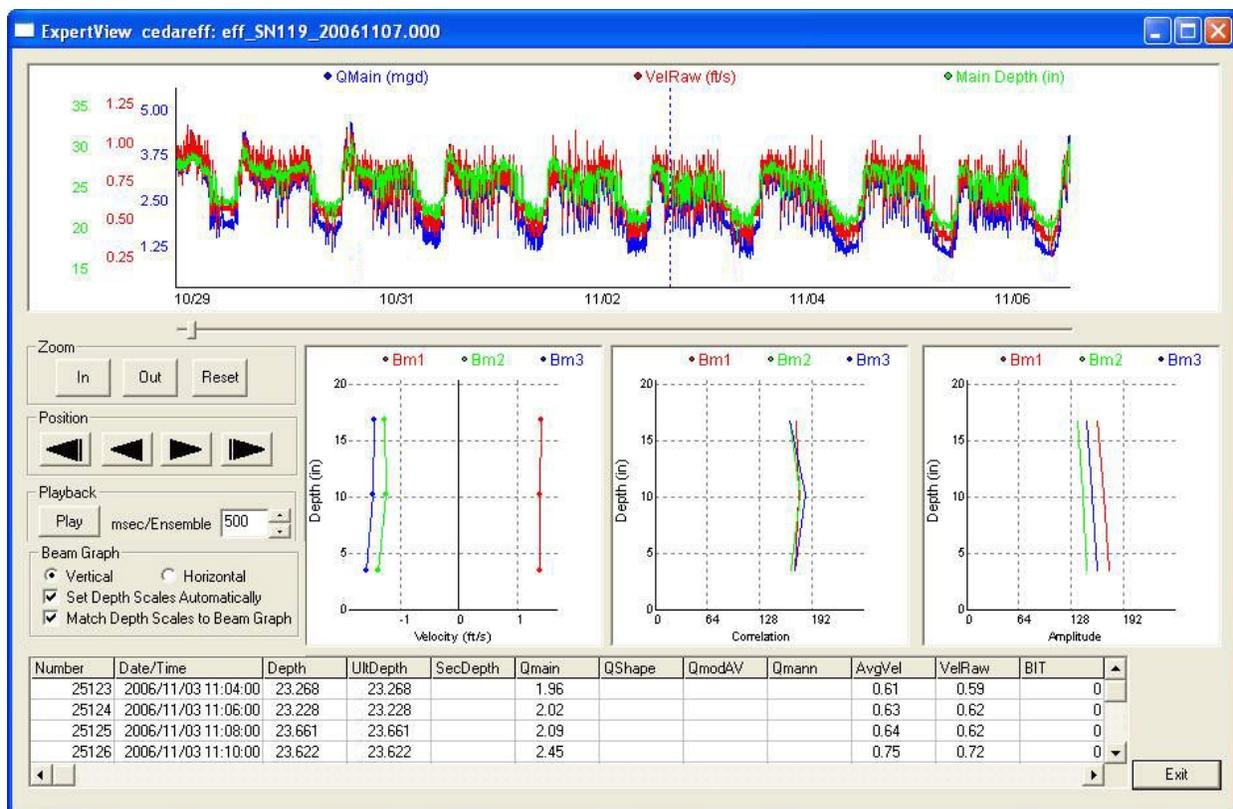

Figure 2-17 Real-time Data screen
- When the Real-time Data screen appears (Figure 2-17), click Exit. Disconnect the interface cable and exit the Operate screen. Exit the WinADFM software program.